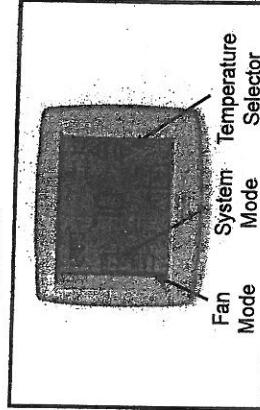

Figure 1. Digital Thermostat
1. Set the thermostat's system mode to COOL or AUTO and change the fan mode to AUTO. See Figure 1.
1. Set the thermostat's system mode to HEAT or AUTO and change the fan mode to AUTO. See Figure 1.
Set the thermostat fan mode to ON (Figure 1). The indoor blower starts immediately, and will run continuously until the fan mode is reset to AUTO.